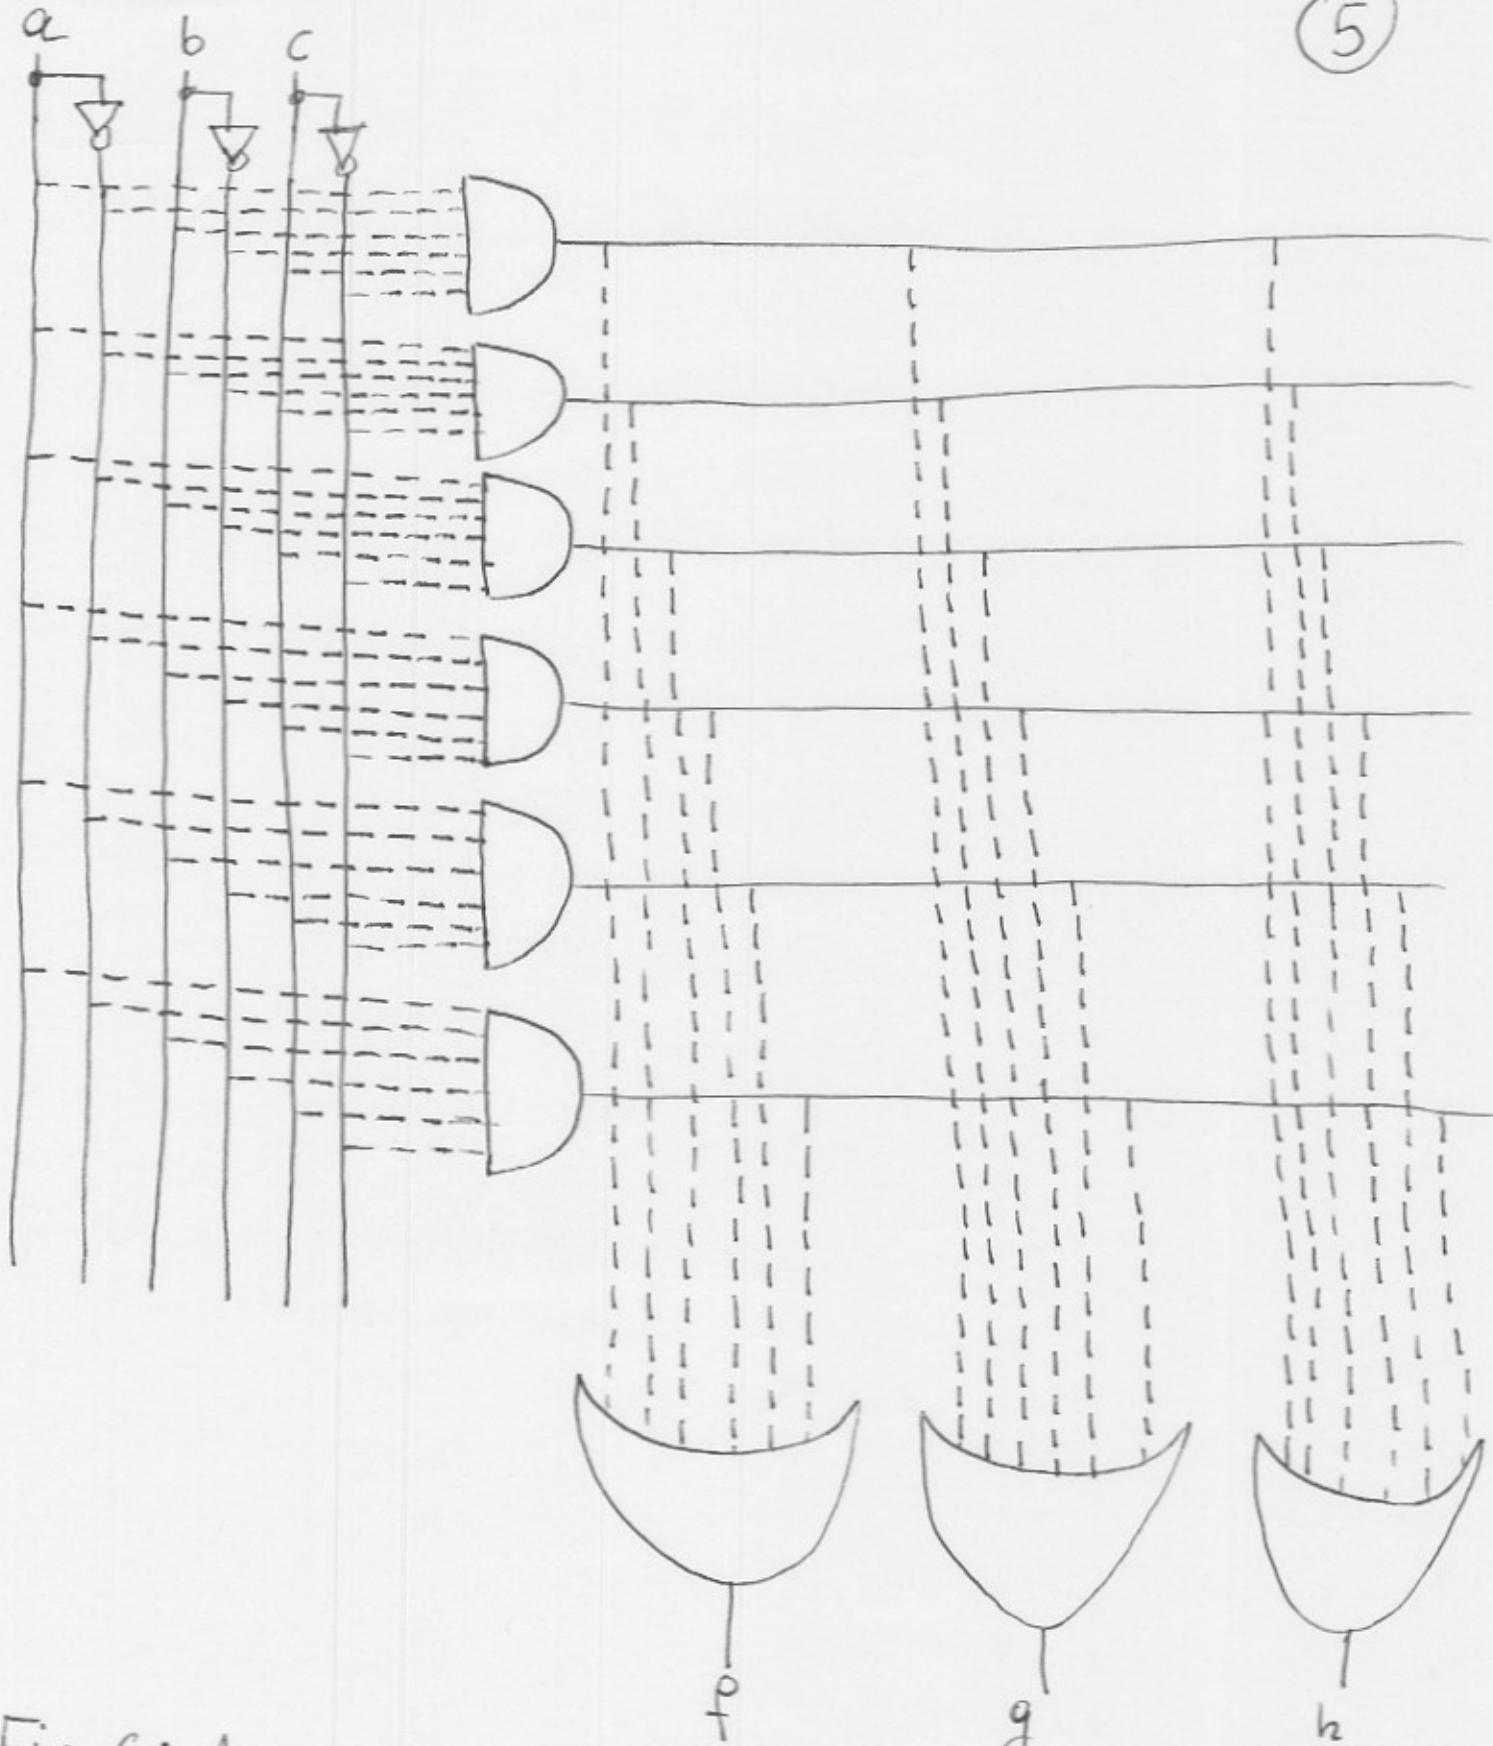
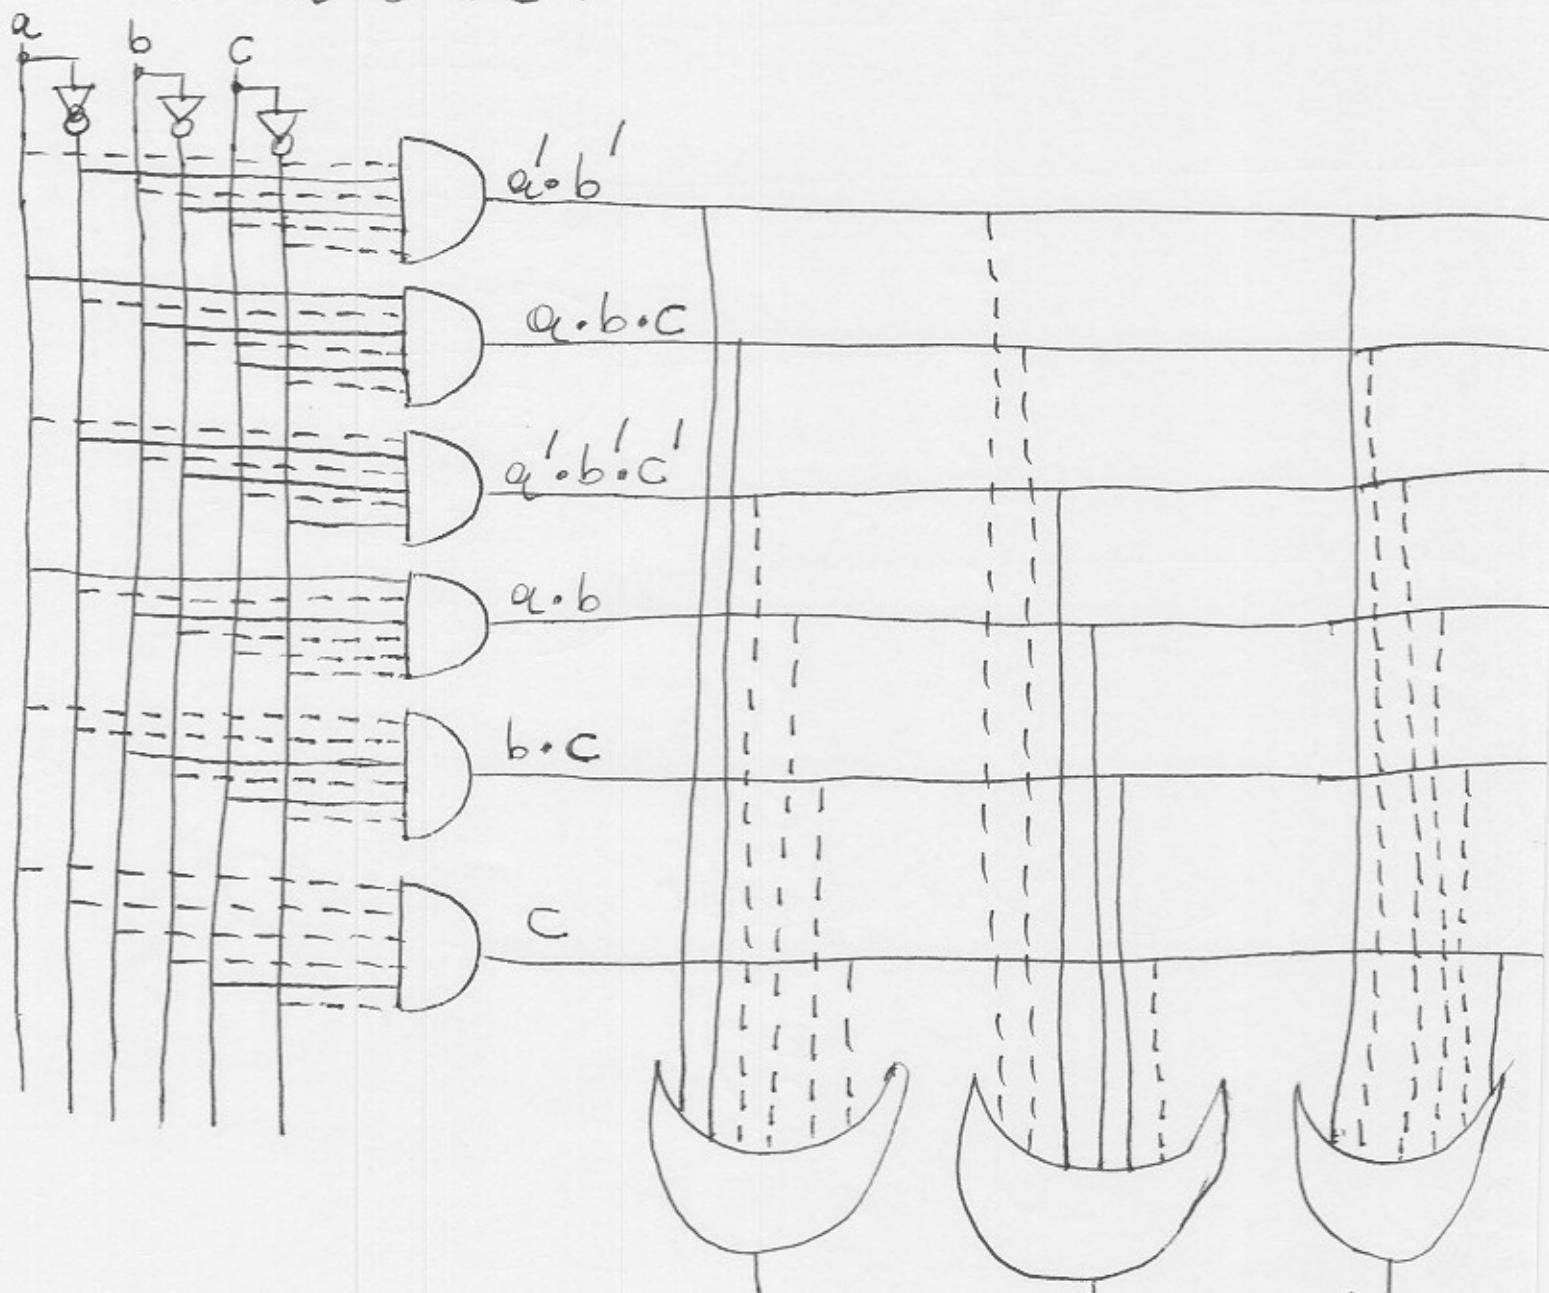
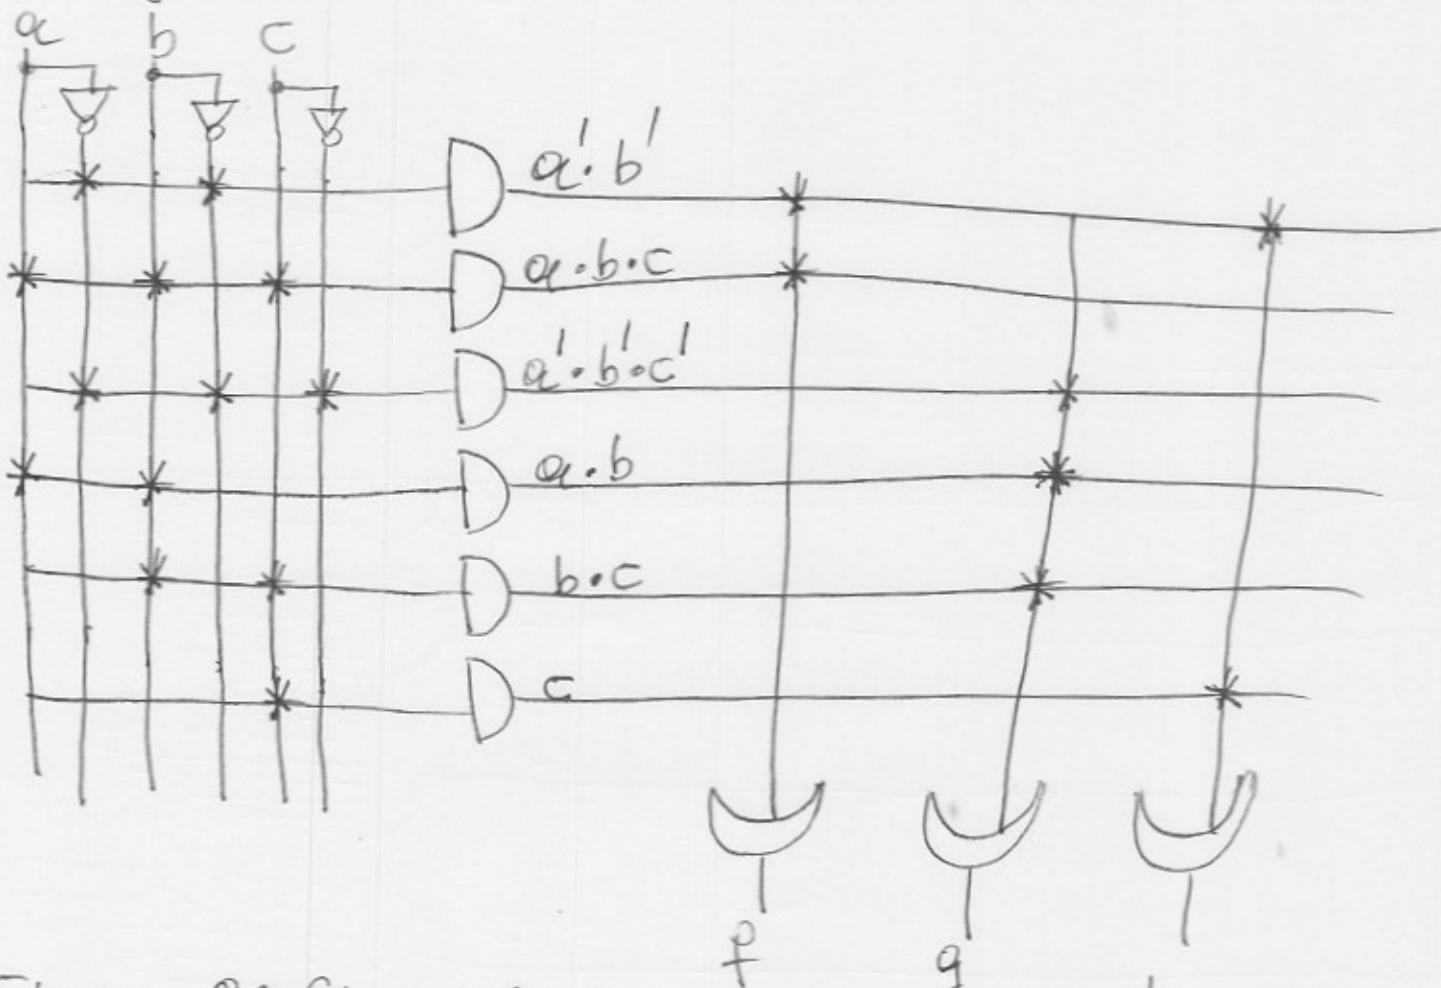

Fig.6: A 3×3 PLA with 6 product terms before programming it. The inputs to the PLA are a, b, c . The outputs are f, g, h . The inverters are internal.
Fig. 7. Implementation of three specific functions f , g , h using the PLA of Fig. 6. (It is a 3×3 PLA with 6 product terms). Solid lines indicate connections.
Figure 8: Simplified version of the ^h figure of the previous page.
Figure 6 on next page shows a 3×3 PLA with 6 product terms before programming it.
In figure 6, the dashed lines indicate possible connections, not made yet. ⑥
Fig. 7 shows the PLA of fig. 6 programmed to implement f , g , h shown below:
Note: The version of the diagram like the one of fig. 7 is rather cumbersome, particularly as the number of inputs and number of gates increase. Thus, rather than showing all the wires, only a single input line is usually shown for each gate, with *'s or dots shown at the intersection where a connection is made. This is shown in figure 8 below: